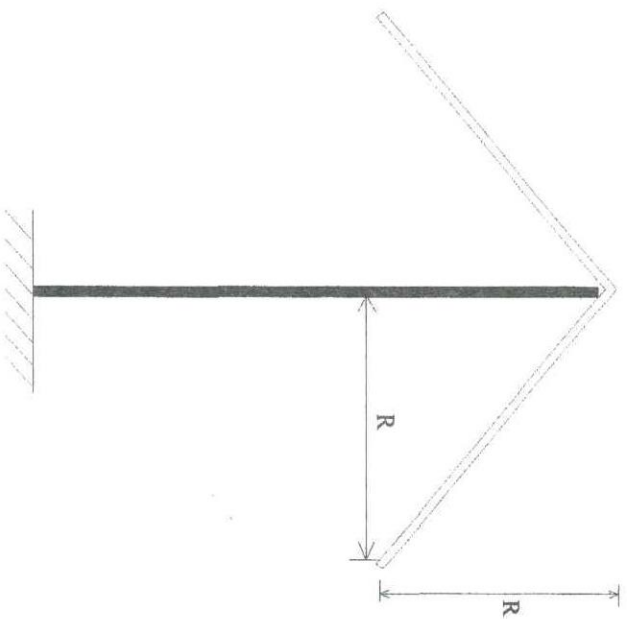

Figure Q5
c) A conical shell made of thin aluminum sheets is proposed to be used as a roof of a cafeteria as shown in Figure Q5. The shell is subjected to its self-weight of "p" per unit surface area.